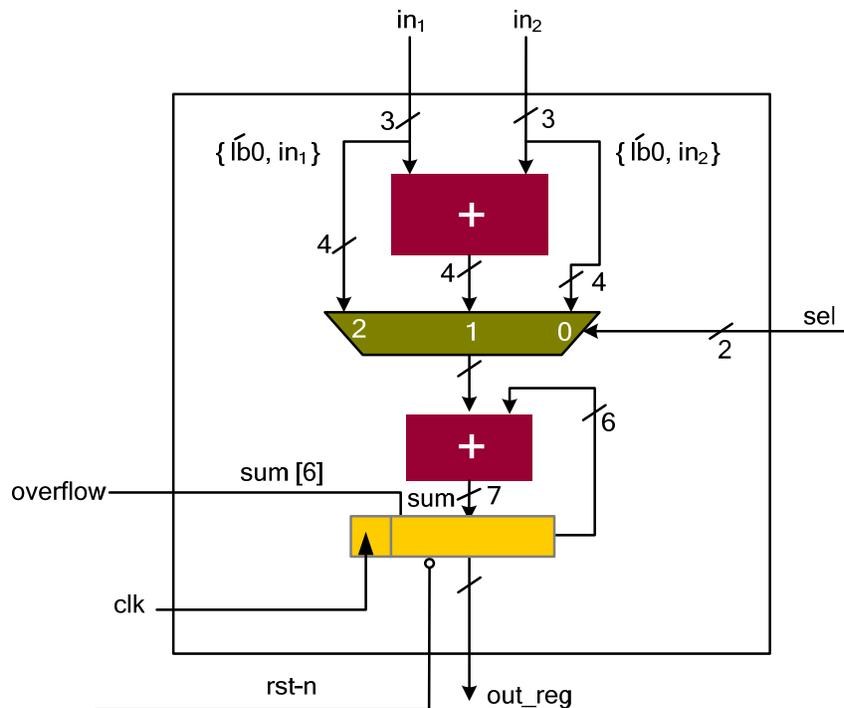

Figure 1: A digital design to be coded in RTL Verilog
1. Write RTL VERILOG code to implement the design given in Figure 1. Generate appropriate reset signal for the feedback register used in the design. Write a stimulus to test the design for functional correctness (in stimulus use for-loop statement to provide different input values to your design).